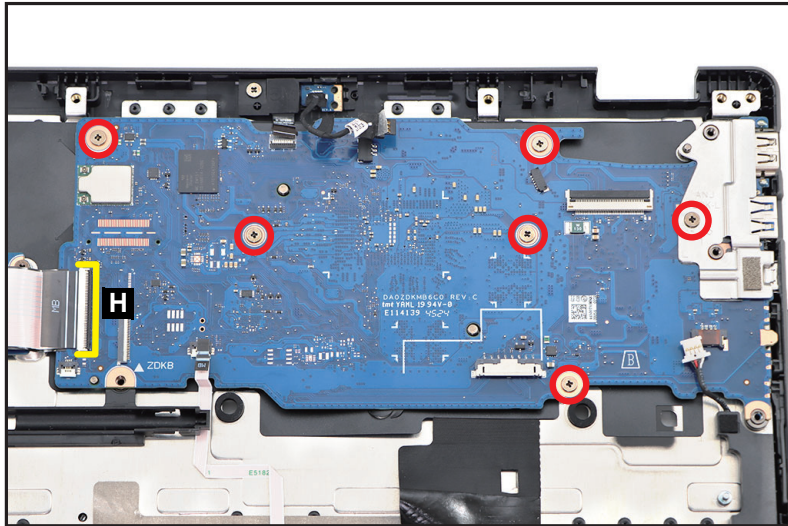

Figure 1-24. Mainboard Removal
13. Remove six (6) screws securing the mainboard and I/O bracket (Figure 1-24).
14. Disconnect the 45-pin I/O board (H) FFC from the mainboard connector (H) (Figure 1-24).